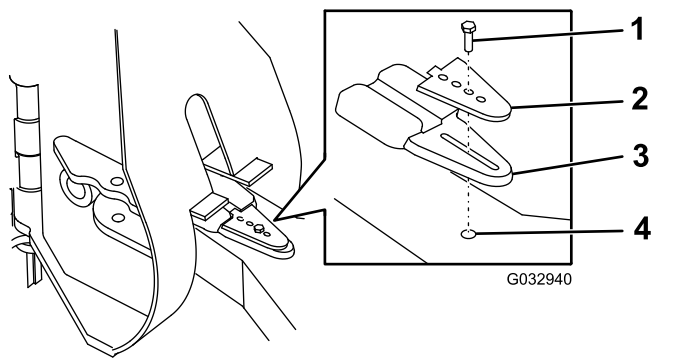

Figure 24
- Adjust the bumper-stop plate (Figure 24).
- Secure the plate to the bumper stop and push frame using the previously removed bolt (Figure 24). Torque the bolt to 31 N·m (23 ft-lb).